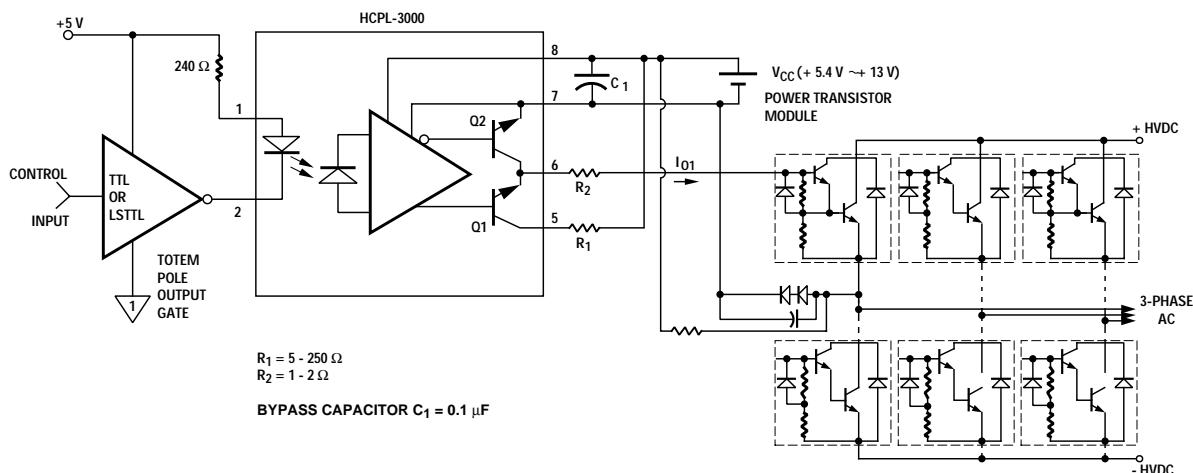

Figure 1. Recommended output transistor protection and typical application circuit.
THE USE OF A 0.1 $\mu$ F BYPASS CAPACITOR CONNECTED BETWEEN PINS 8 AND 7 IS RECOMMENDED. ALSO, CURRENT LIMITING RESISTORS ARE RECOMMENDED (SEE FIGURE 1, NOTE 2, AND NOTE 7).
large amounts of current. Figure 1 describes a recommended circuit design showing current limiting resistors R1 and R2 which are necessary in order to
- $R_1$  sets the base current ( $I_{O1}$  in Figure 1) supplied to the power bipolar device.  $R_2$  limits the peak current seen by Q2 when the device is turning off. For more applications and circuit design information see Application Note "Power Transistor Gate/Base Drive Optocouplers."